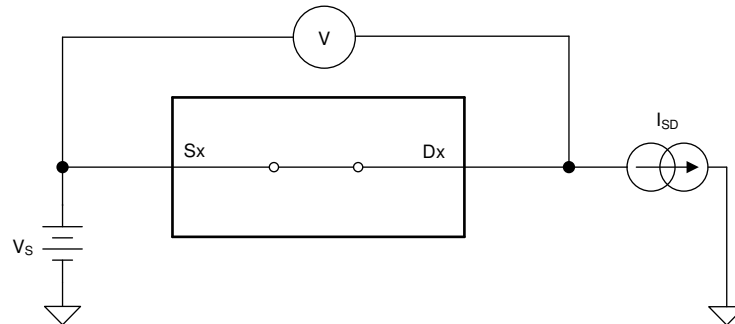

Figure 7-1. On-Resistance Measurement Setup
The on-resistance of a device is the ohmic resistance between the source (Sx) and drain (Dx) pins of the device. The on-resistance varies with input voltage and supply voltage. The symbol R_{ON} is used to denote on-resistance. The measurement setup used to measure R_{ON} is shown in Figure 7-1. Voltage (V) and current (I_{SD}) are measured using this setup, and R_{ON} is computed as shown below with $R_{ON} = V / I_{SD}$: